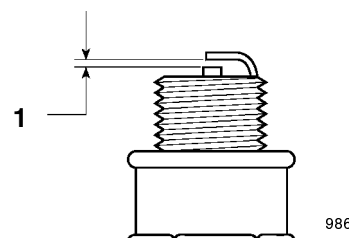

Figure 30
4. Set the gap on the new plug to 0.030 in. (0.76 mm) (Fig. 30).